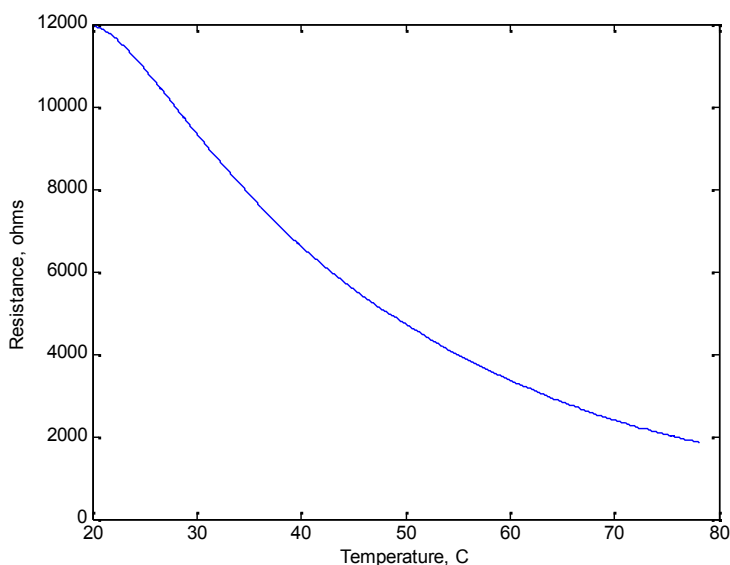

Figure 1. Thermistor temperature-resistance characteristic.
In this portion of the lab assignment, we will design and construct a temperature measurement system. The system will use a *thermistor* to detect temperature changes. A thermistor is a device whose electrical resistance changes as a function of the temperature of the thermistor. The thermistor we will use, for example, has a temperature-resistance curve approximately as shown in Figure 1. It is worthwhile noting that the relationship between temperature and resistance is not linear. However, during the design process it is common to approximate the data as a straight line – at least over some range of temperatures.
It can be seen from Figure 1 that the temperature can be inferred from the resistance of the thermistor. However, resistance is not a common quantity to use to represent a physical parameter – it is much more usual to use voltage to represent the parameter. (Voltages are generally easier to use than resistance to represent information. For example, digital logic circuits generally operate based on voltages applied to them.) We will design a circuit which outputs a voltage, from which the temperature of the thermistor can be inferred.
3. Using the temperature-resistance curve provided in Figure 1, choose a value for R such that v_{out} changes by at least 0.5V over the specified temperature difference.
In general, design is an *iterative* process. As new information becomes available, the design is revised to ensure that the design requirements are met or the design requirements are revised to ensure that they are realistic. Since this is our first experience with design, we will not iterate on the preliminary design from the pre-lab. Our pre-lab analysis, however, still provides valuable information which can be used to discuss our final design performance relative to system requirements. For example, we may claim that the design requirements were not met because our thermistor did not have the sensitivity provided in Figure 1 or that our fingertips did not apply the desired 37°C temperature. Either way, we have a reason why we did not meet the design requirements – this can be important when discussing your system performance relative to the design requirements with your customer!